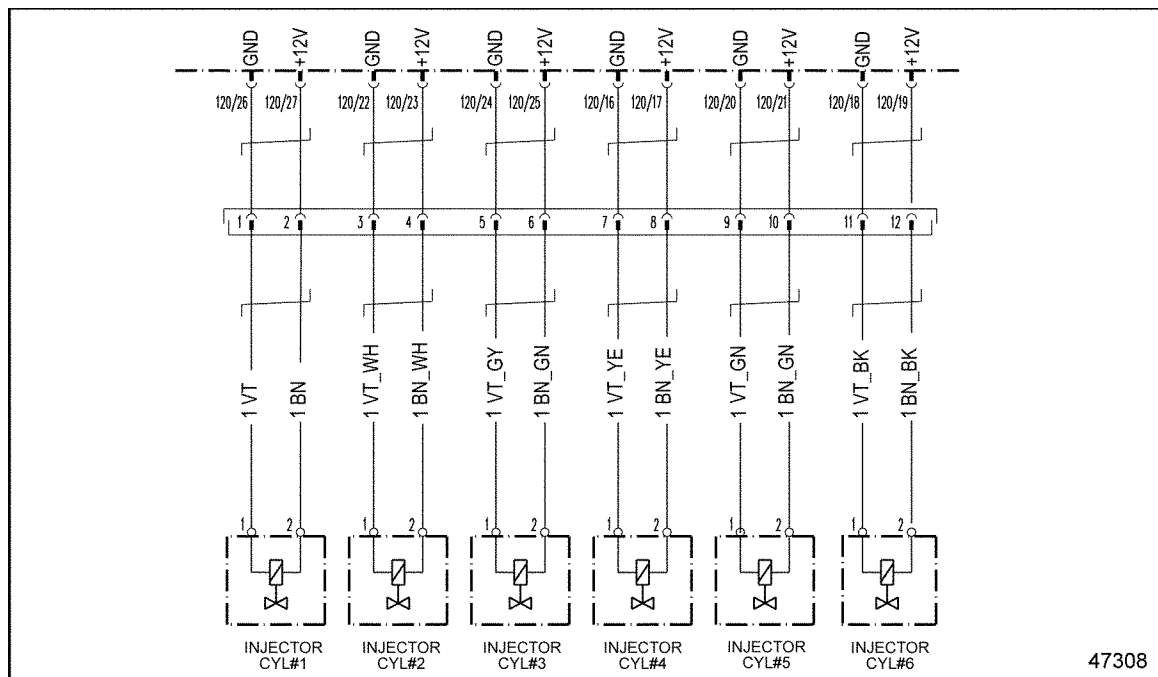

Figure 26-1 MBE 900 Injectors
4. Measure the resistance between pins 5 and 6 on the valve cover side of the connector. See Figure 26-1.